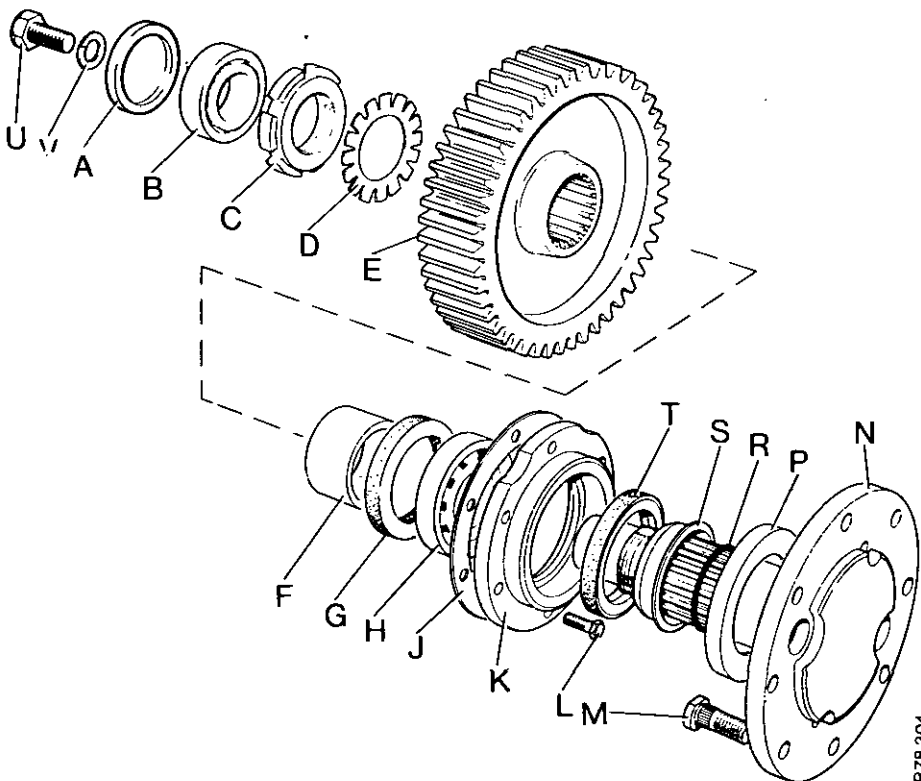

FIGURE 112.
1. Install the thrust plate A for the adjuster screw in the casing. Figure 112.